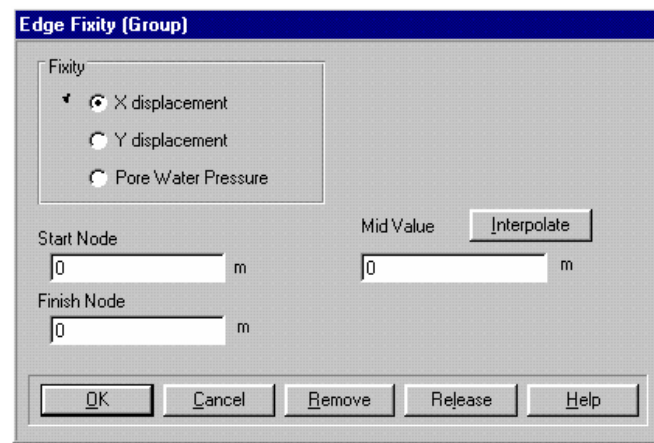

Figure 4-20: Defining Edge Fixities
- Step 7** The Edge Fixity dialogue box should now look like Figure 4-20. Click on **OK** to exit, once you have finished.